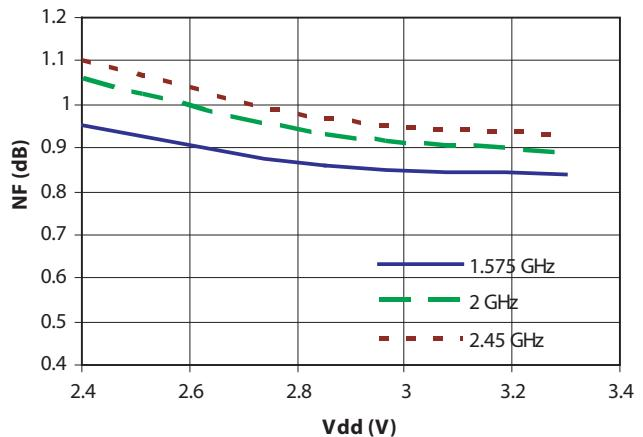

Figure 4. NF vs Vdd vs Freq
TA = 25 °C, DC bias for RF parameters is Vdd = Vsd = +2.85V , measured on demo board (see Fig. 4) unless otherwise specified.
**Table 2. Typical performance at low operation voltages with R1 (see Fig 4) set to 0 Ohm**
7. Measurements at 1.575GHz obtained using demo board described in Fig 4.
**MGA-635T6 Typical Performance Curves, Vdd=Vsd=+2.85V, R1=22K0hm measured on demoboard (see Fig.4) at 1.575GHz (At 25°C unless specified otherwise)**
**MGA-635T6 Typical Performance Curves, Vdd=Vsd=+2.85V, R1=22K0hm measured on demoboard (see Fig.4)**